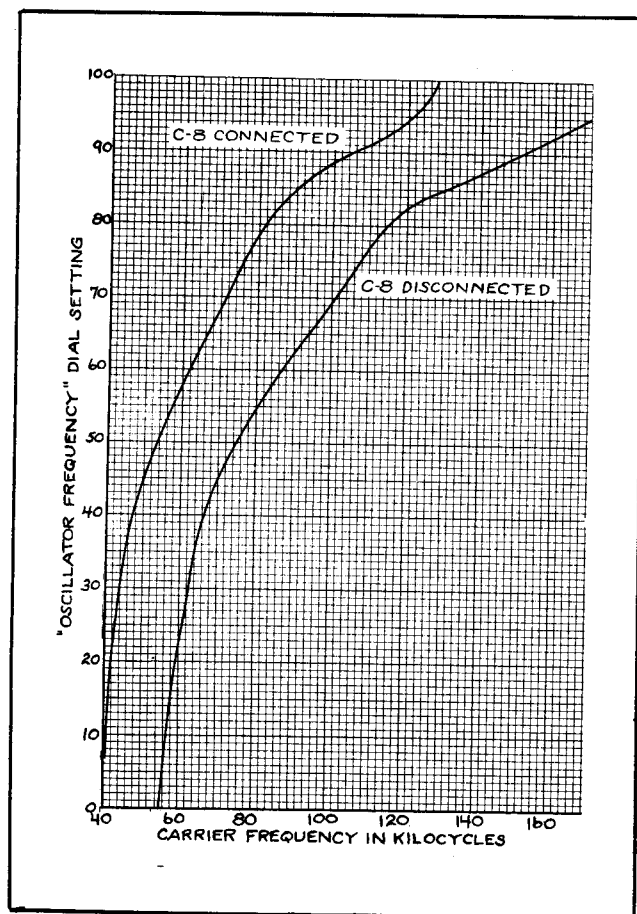
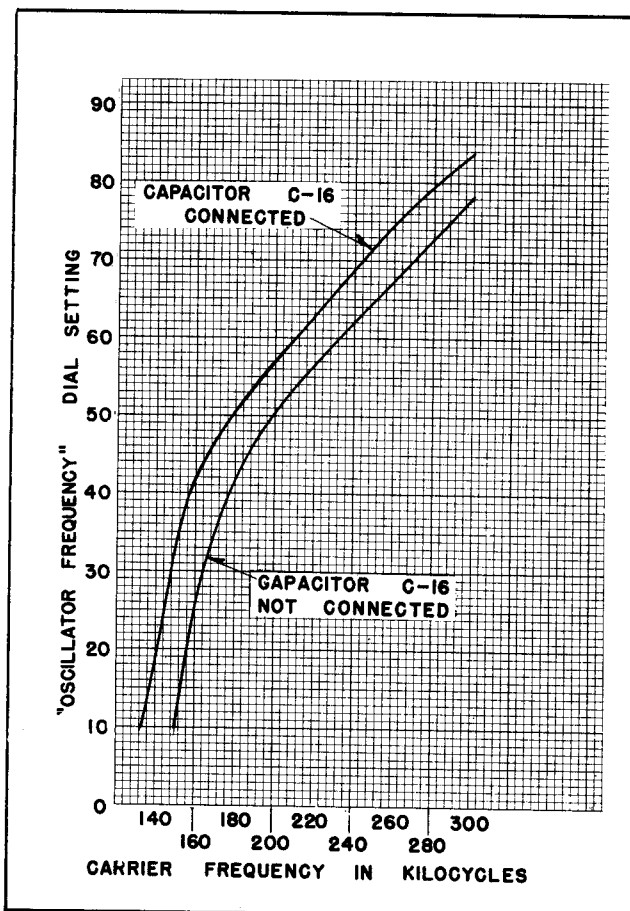

Fig. 3—Oscillator Frequency Dial Calibration Curve for the 50-150 Kc S#867932 Type JY Carrier Transmitter.
Fig. 4—Oscillator Frequency Dial Calibration Curve for the 150-300 Kc S#1352338 Type JY Carrier Transmitter.
4. Select the carrier frequency desired by referring to curve Fig. 3 or Fig. 4, and adjust the OSCILLATOR FREQUENCY control dial to the setting given by the curve. For frequencies above 80 kilocycles, disconnect capacitor C-8. The frequency setting from the curve is approximate and for installations where no carrier channels have yet been established, will be sufficiently accurate. To get an exact setting, use a precision wavemeter, or use a standard signal generator and an oscilloscope, connecting the signal generator across the horizontal plates and the transmitter output across the vertical plates, to obtain a circular figure. Alternately, use a receiver and zero-beat the transmitter output with a signal generator.